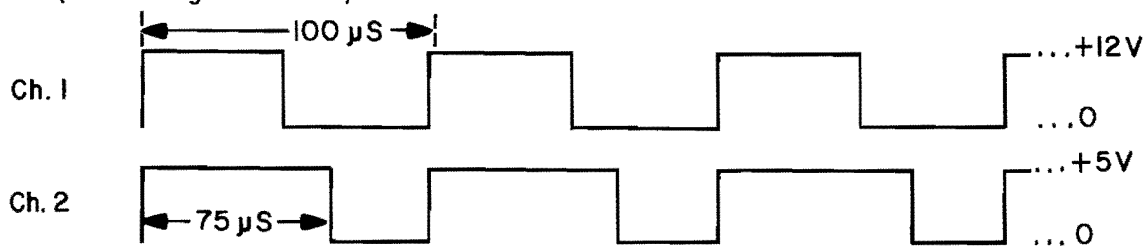

Figure 9-3 Cellular Pulse - Width Calibration
7. Trigger on positive edge of Channel 1 signal. Adjust R6555 so that duration of positive pulse on Channel 2 is 75 μ S. (See Figure 9-3).